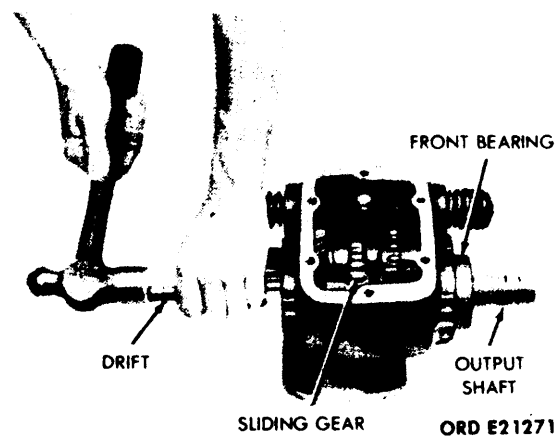

Figure 5-11. Removal of Output Shaft, High-Speed Gear, and Front Bearing.
(2) Push or tap the output shaft and front bearing from the case. (See fig. 5-11.) Lift the sliding gear out of the case.